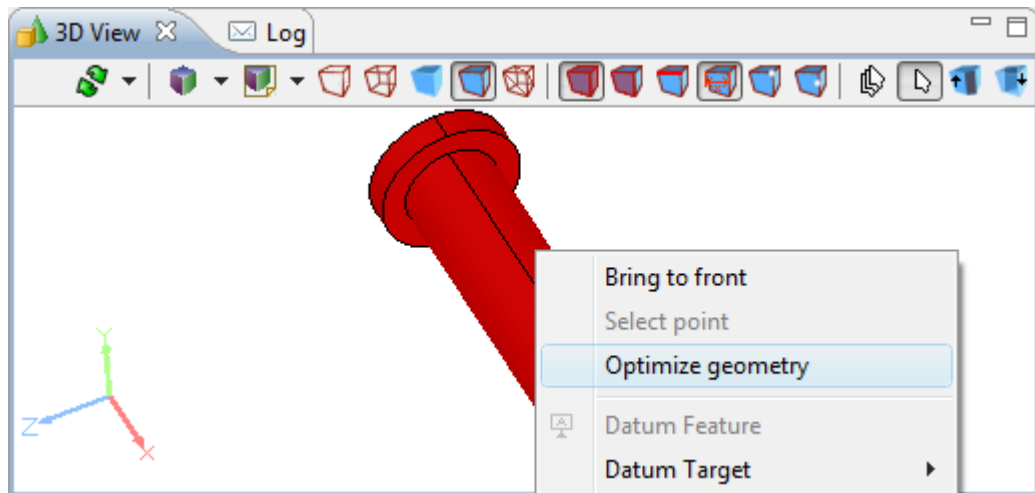

Figure 1. Whole component highlighted in 3 D View and Optimize geometry menu item selected
- Right click and select **Optimize geometry** menu item in the context sensitive menu (see Figure 1).